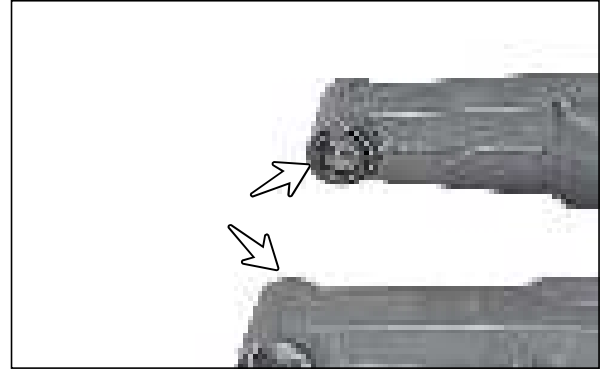

Fig. 6.151
- Remove the dust seal (2 Nos.) from swing arm assembly. (Fig. 6.151)